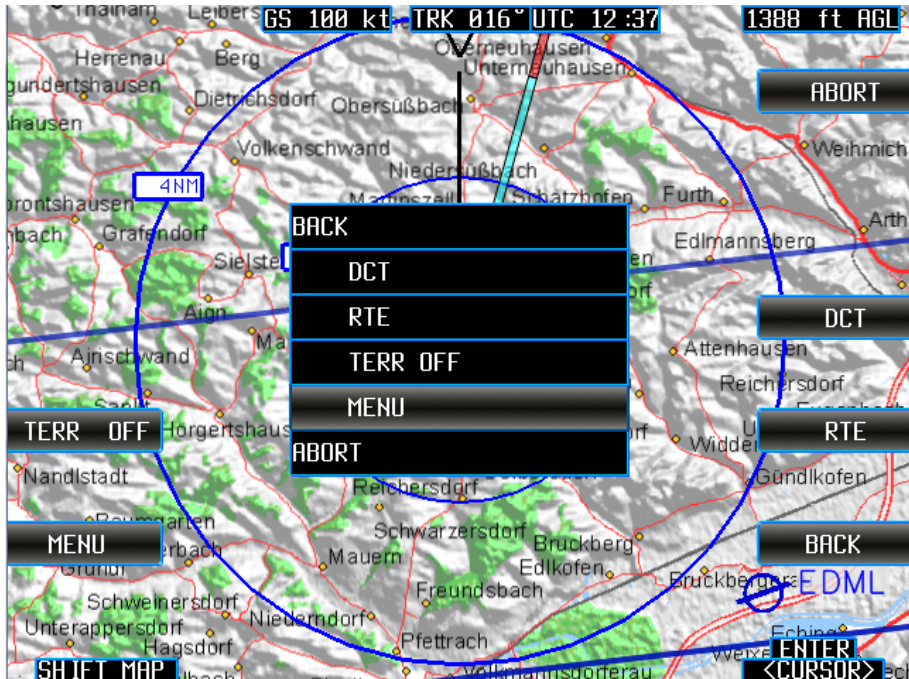

Figure 25: Base map, view with function list
- Select the desired function by means of the rotary-encoder and push on it to confirm your choice (Figure 25).